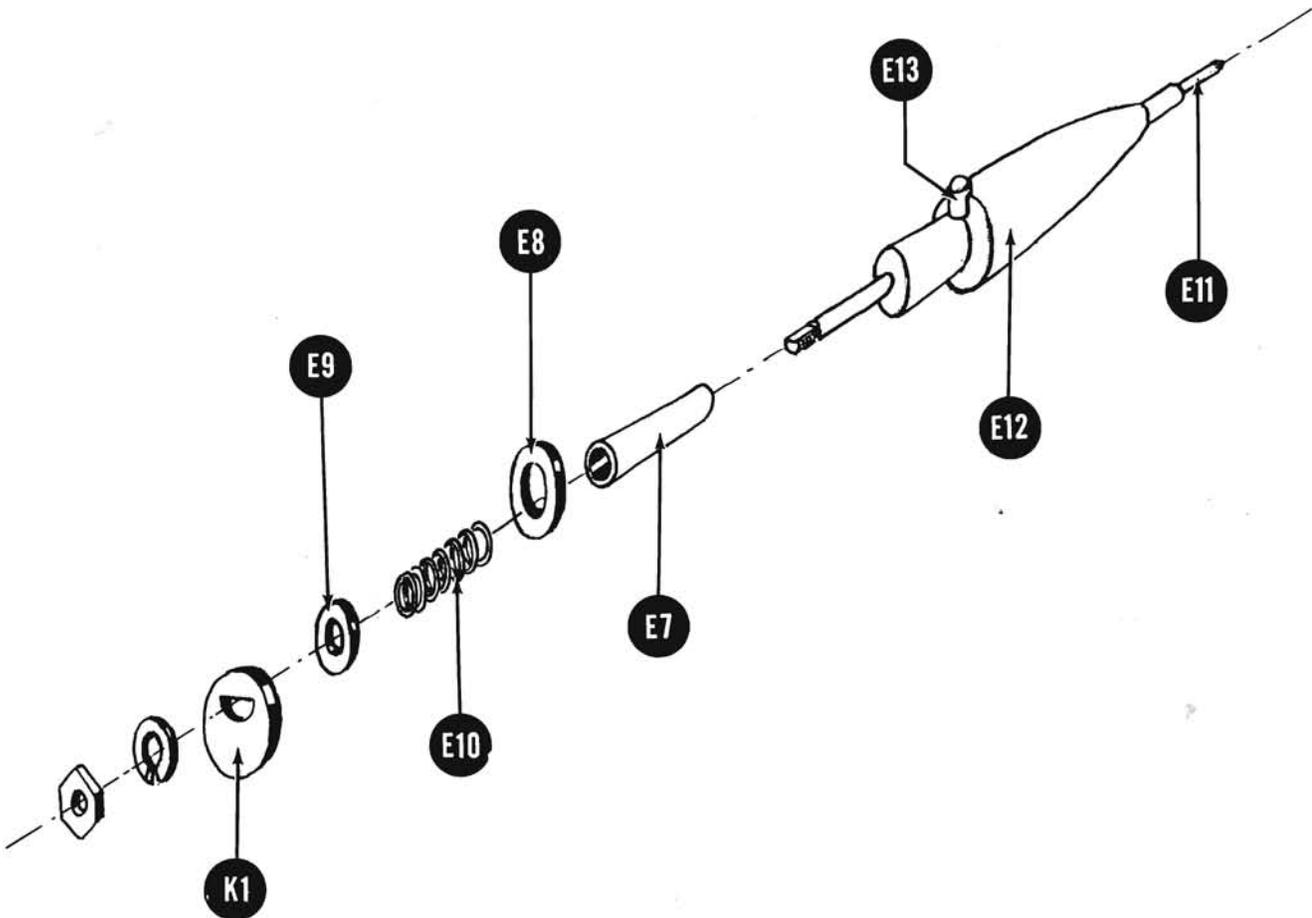

Fig. 8
- (✓) Fig. 8. Slip the small diameter fiber tube E7 over the metal stud E11 protruding from the nose-piece assembly.
- (✓) Fig. 8. Slip the large diameter fiber washer E8 over E7 and seat it on the blunt-end of the nose-piece E12.
- (✓) Fig. 8. Slip the compression spring E10 over the fiber tube E7.
- (✓) Fig. 8. Hold the spring E10 compressed so that the threaded end of the metal stud E11 is exposed. In the order given, slip the following parts over the threaded end of the stud: the small diameter fiber washer E9, the brass rotor contact K1, a #6 split washer, and a #6-32 hex nut. Tighten the nut and then release the spring.